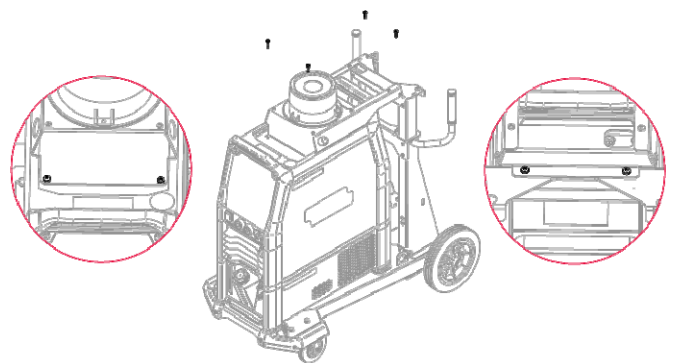

Figure 6
- Final assembly – the cooler should be assembled to the Speedtec with M6x16 screws (Figure 6).